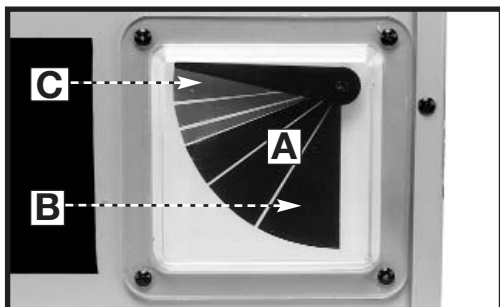

Fig. 9A
The model 50-875 Air Cleaner has an “air flow” indicator (A) Fig. 9A located on the left side of the unit. To check the filters, turn the unit “ON”. If the indicator points to “green” (B) Fig. 9A, the filters are clean. Clean (or change) the filters when the indicator points to “red” (C) Fig. 9A as follows: